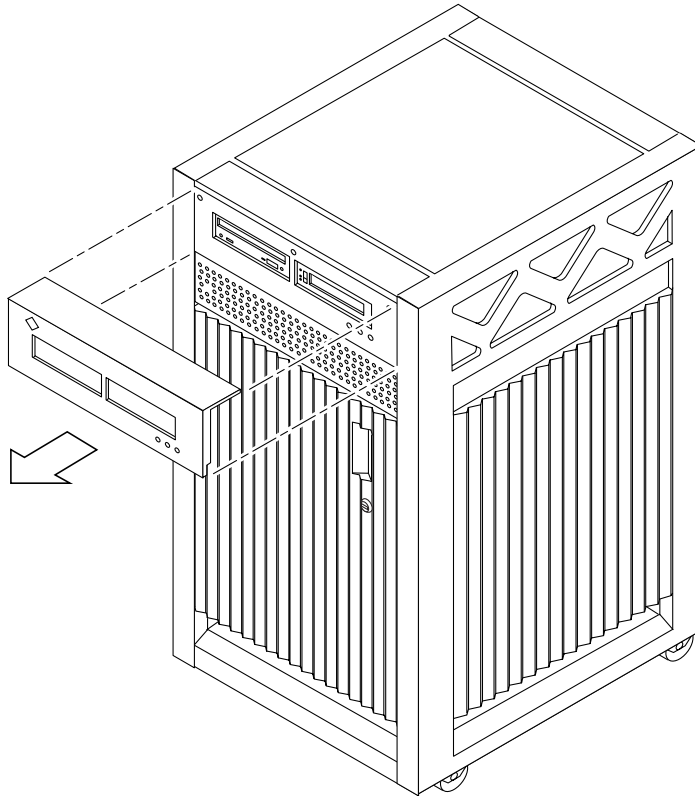

FIGURE 8-2 Front Bezel
b. Pull the front bezel straight out toward you and set it aside (FIGURE 8-2).